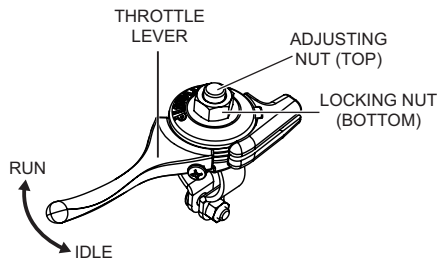

Figure 12. Adjusting Cable Tension
10. Adjust cable tension by loosening the lock nut on the throttle cable receiver (see Figure 12), loosening or tightening the adjusting nut below it, then retightening the lock nut.